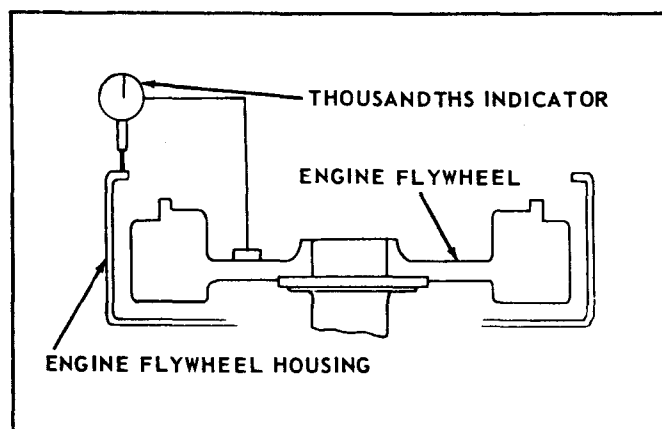

Figure 31. Checking the Face of the Engine Flywheel Housing.
B. *Checking Face of Engine Flywheel Housing.* Bolt a thousandths indicator or gauge to the engine flywheel so that the indicator is perpendicular to the face of the engine flywheel housing, and the indicator stem is riding on the face of the flange (fig. 31). Rotate the engine flywheel and note the face deviation of the engine flywheel housing flange. The face deviation must not exceed the tolerance listed in Table II.